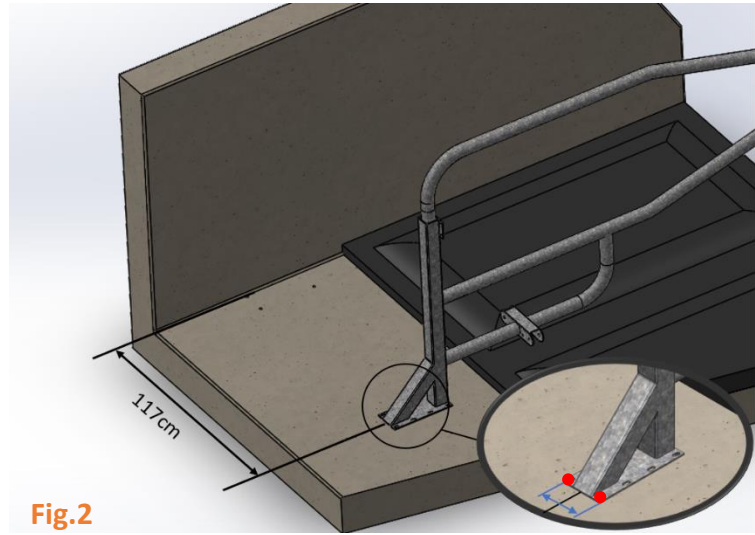

Fig.2
- Mark the widths between each side bar: first mark at 117cm* (center of the mounting plate) then every 120cm*. Fig.2/3
- Stretch the line as shown below (in blue on the diagram). Fig.2